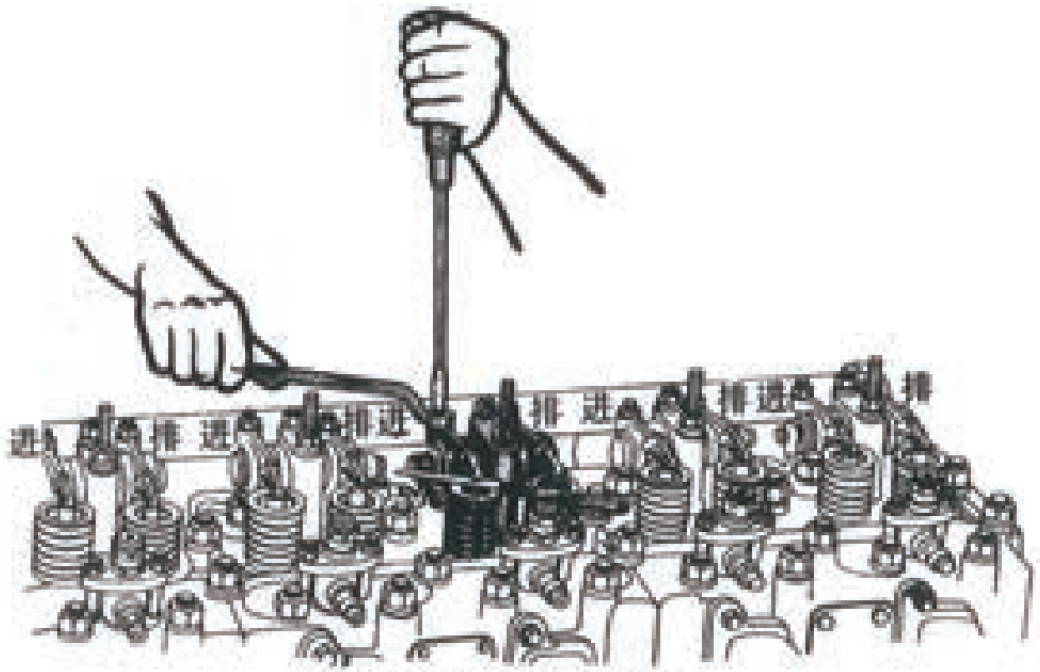

Figure 2-6 Adjustment of valve clearance
5) When adjusting valve clearance, first use a wrench and screwdriver to loosen the locking nut and adjustment screw on the rocker arm. Insert a feeler gauge (also known as a micrometer) between the rocker arm and valve according to the specified clearance value. Then adjust the adjustment screw (as shown in Figure 2-6). Stop when the rocker arm and valve contact the feeler gauge but it can still move, then tighten the nut. Finally, repeat the process of moving the feeler gauge once more for inspection.